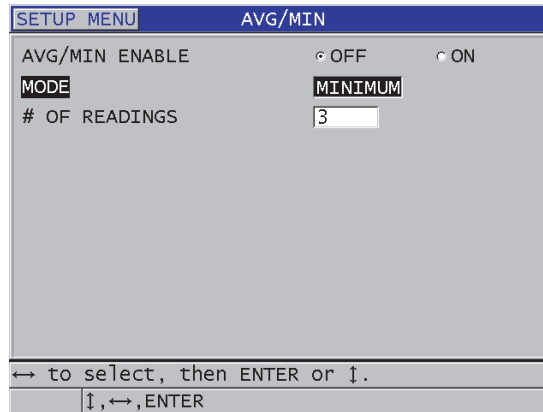

Figure 10-16 Opening the Avg/Min measure dialog box
3. In **AVG/MIN** screen (see Figure 10-16 on page 172):